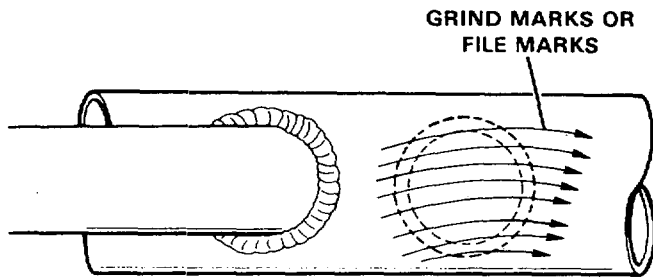

Figure 14-8. Removing Remaining Material
3. Remove the remaining material. Grind marks should be parallel to the chord to minimize the possibility of damaging the chord. See Figure 14-8.
Due to the location of the lacing being removed in Figure 14-8 disc grinding the remaining 1/16 inch (1.6 mm) of weld is difficult, if grind marks are to be kept longitudinal to the chord. Therefore, a large file should be used to remove the remaining 1/16 inch (1.6 mm) of weld. If no other member interferes with grinding, a fine grit disc grinder should be used. Note the direction of the grind marks in Figure 14-8.
2. Disc grind the remaining lacing and weld material away until the angle is returned to its original shape. See Figures 14-8 and 14-14.